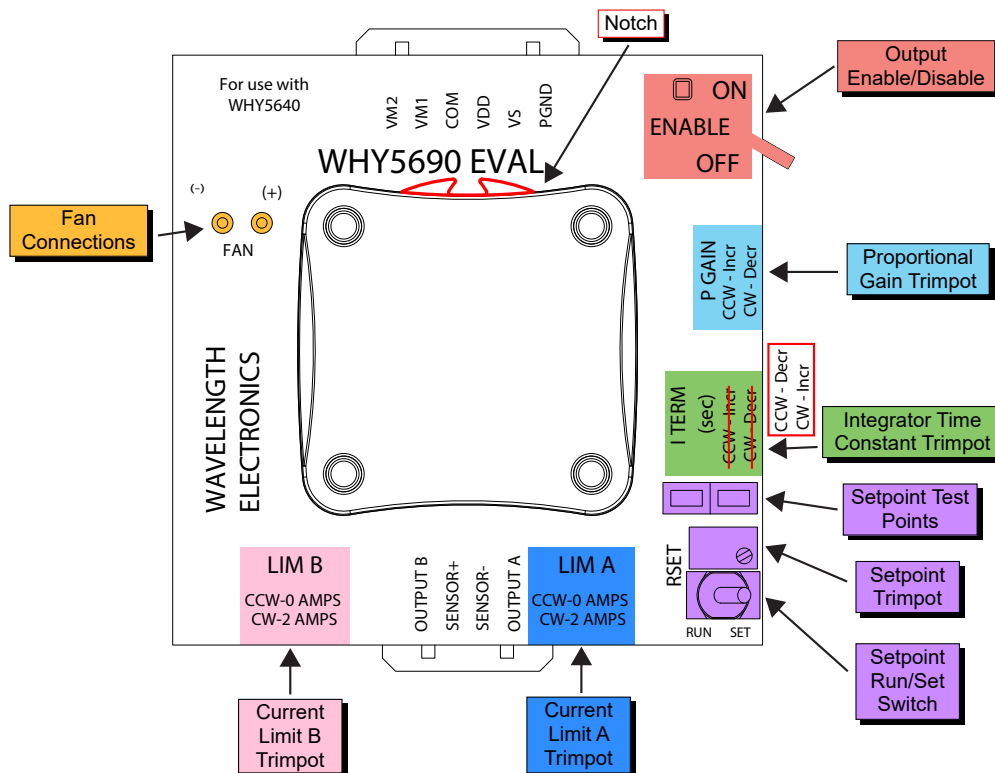

Figure 12. WHY5690 Evaluation Board Top View
- Match up the notch (**Figure 12**) on the WHY5640 with the silkscreen on the PCB
Adjust the RSET trimpot to change the setpoint temperature. With the RUN/SET switch in the “SET” position, measure the resistance between the two test points next to the RSET trimpot. Adjust the RSET trimpot to change this resistance to the resistance value of the thermistor at the desired operating temperature. Once the RSET resistance is set to the desired level, return the RUN/SET switch to the “RUN” position. **Figure 12** shows the location of the RUN/SET switch and test points.
- Match up the notch (shown in Figure 12) on the WHY5640 with the silkscreen on the PCB